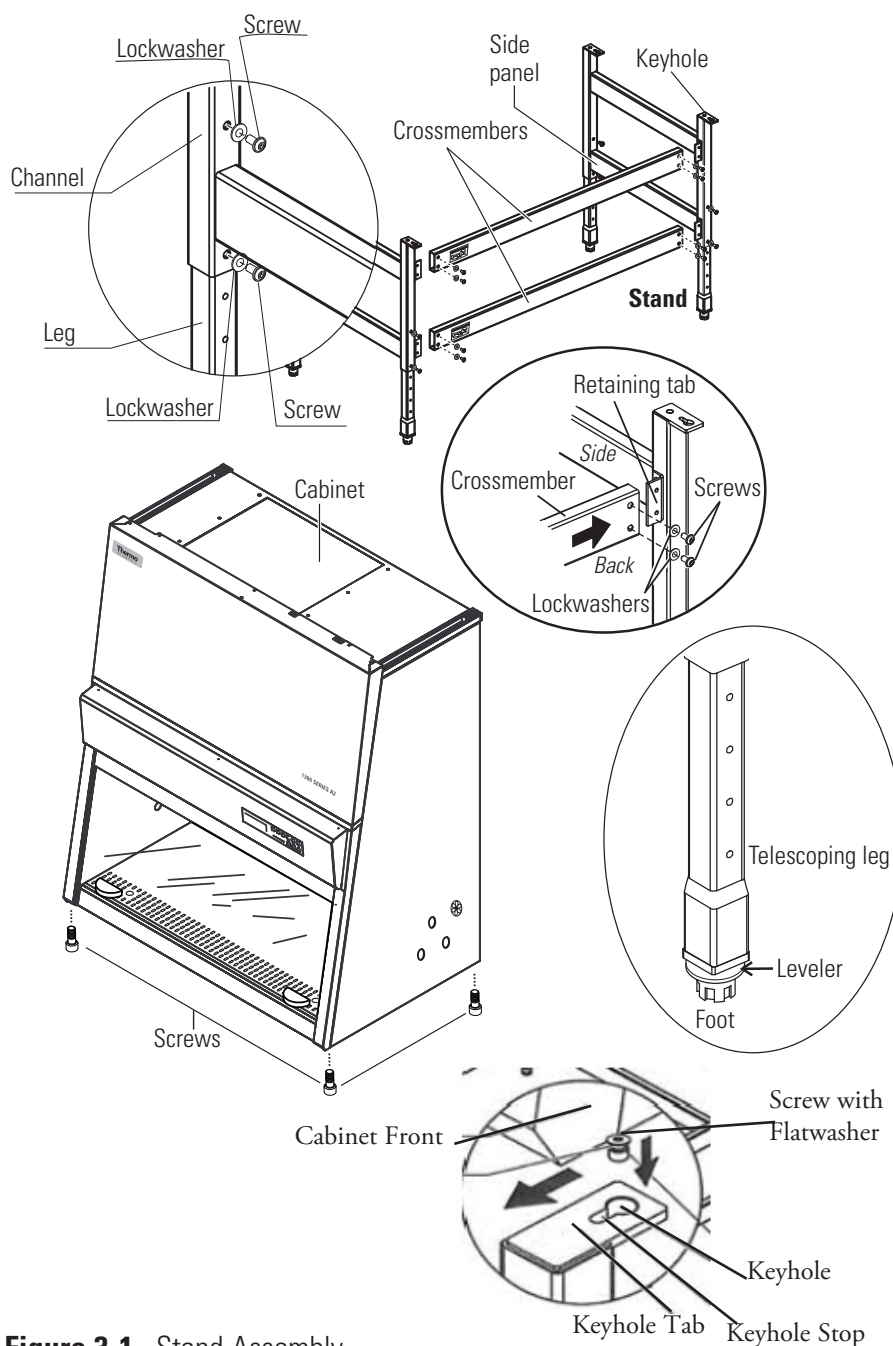

Figure 3-1. Stand Assembly
2. Locate the left and right side panels. Install the telescoping leg assemblies into the side panels as shown in Figure 3-1.
4. Locate the two crossmembers from the packaging. Note they are packaged separately from the side panels. With the label on the crossmember to the outside (Figure 3-1), install the crossmembers onto the retaining tabs of the side panels. Place lockwashers on screws, then install all screws by hand, before tightening to secure together.
7. Slide the cabinet frame to the keyhole stop (see Figure. 3-1).